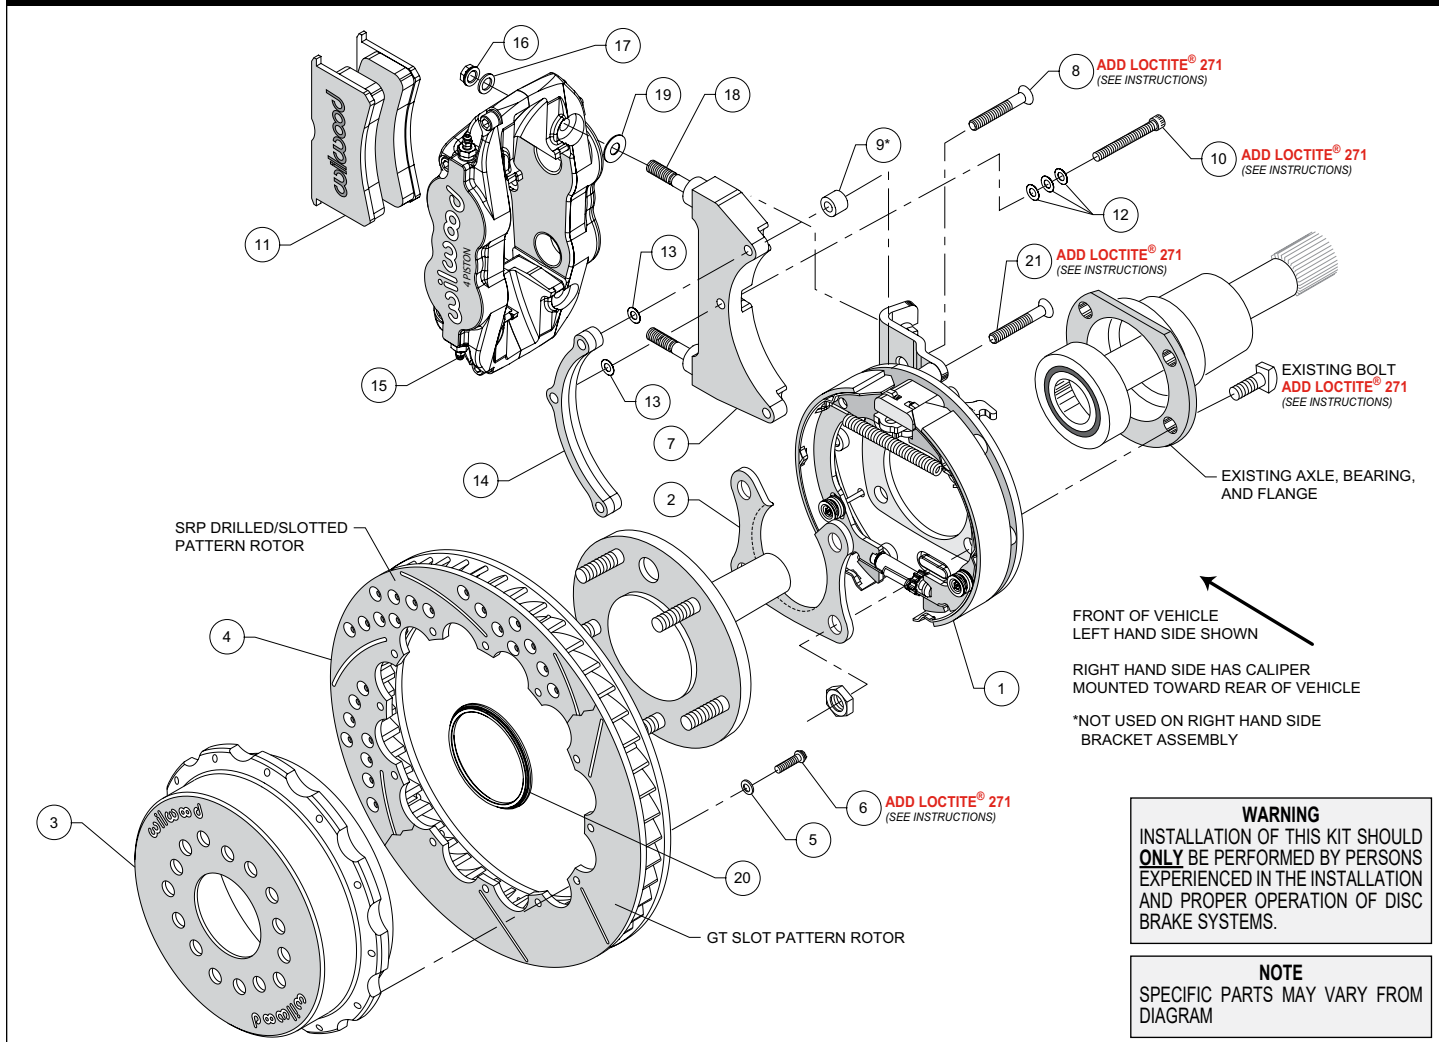
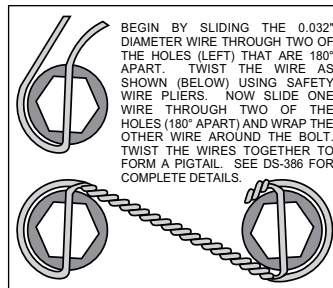

Figure 1. Typical Installation Configuration
Figure 5. Safety Wire Diagram
NOTE: Numbers in parenthesis refer to the parts list and Figure 1 on the preceding pages.
• Orient the bracket assembly (1), as shown in Figure 1, and Photo 1, and slide it onto the axle. Insert the axle and bracket into the axle housing. Ensure that the bracket assembly backing plate fits flush against the axle housing flange.
• Install the bearing retainer (2) with the opening pointing upward and the lip facing inward (toward the bearing), as shown in Figures 1 and 4, and Photo 2. Secure retainer and bracket assembly to the axle housing flange using the Original Equipment Manufacturer (OEM) bolts and nuts, Figure 1. Apply red *Loctite*® 271 to the OEM bolt threads and torque to OEM specifications.
• **NOTE:** Please reference the caution statement at the beginning of the assembly instructions. The caliper mounting bracket assembly (7) should initially be installed with clean, dry threads on the mounting bolts.
Left Hand Side - Remove and discard temporary rubber spacer from bolt (8). Orient the left hand bracket (7) and 3-hole spacer (14) as shown in Figure 1 and Photo 3, and install using bolts (10) and three washers (12) in the middle and lower hole locations, Figure 1. Use bolt (8) in the upper hole with spacer (9) placed between the bracket (7) and the cable stop bracket, Photo 3. Initially place one .015" shim washer (13) on each of the three bolts between the bracket and 3-hole spacer, Figure 1. Temporarily tighten the mounting bolts.
•Orient the rotor (4) and the hat (3) as shown in Figure 1 and Photo 5. Attach rotor to hat using bolts (6) and washers (5). Apply red Loctite® 271 to the bolt threads and torque to 155 in-lb using a criss-cross pattern. For an added measure of security, the bolts may be safety wired using standard 0.032 inch diameter stainless steel safety wire as shown in Figure 5. Please refer to Wilwood's data sheet DS-386 (available at www.wilwood.com/Pdf/DataSheets/ds386.pdf) for complete safety wire installation instructions.